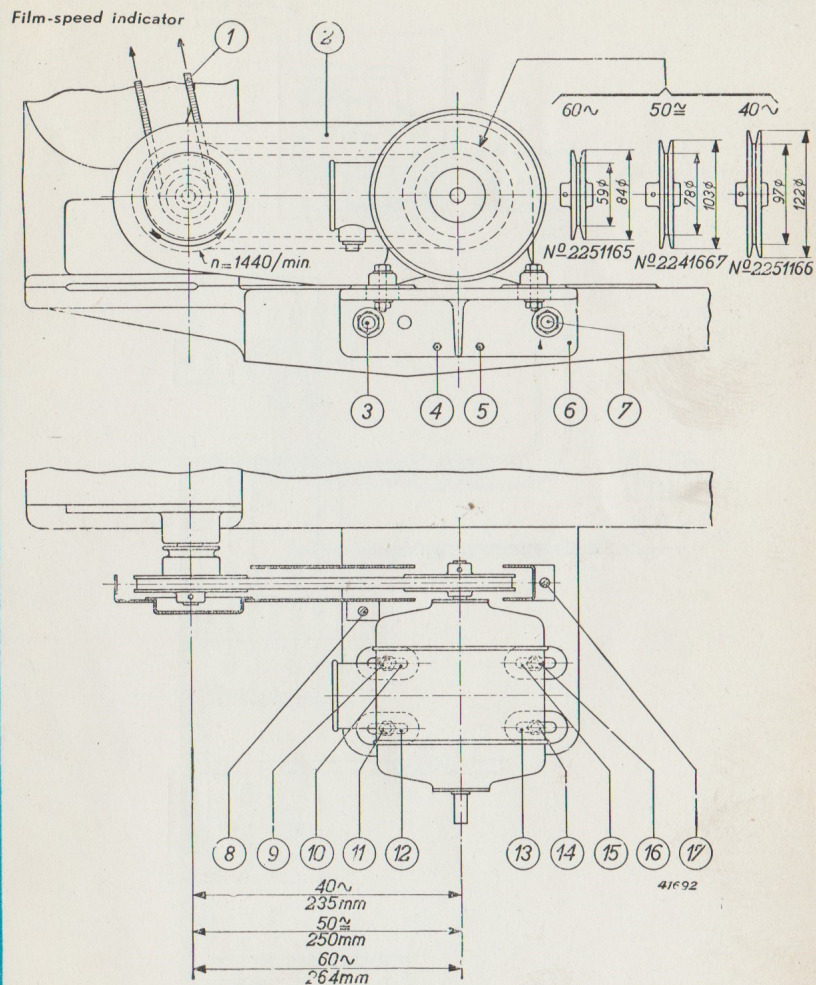

Fig. 7
The projector pulley and the driving belt are the same for 40, 50 and 60-cycle mains. The projector pulley is provided with a free-wheeling device; thus when turning the inching knob of the projector the motor does not turn. The diameter of the motor pulley depends on the mains frequency. Fig. 7 gives the code numbers of the respective motor pulleys and the approximate distance between the centre of the projector pulley and the centre of the motor pulley.
3. Mounting the motor bracket and the motor (fig. 7)
This film-speed indicator, type 8662/00, is driven by rubber belt "1" (fig. 7) running over the small pulley which forms one unit with the projector pulley.